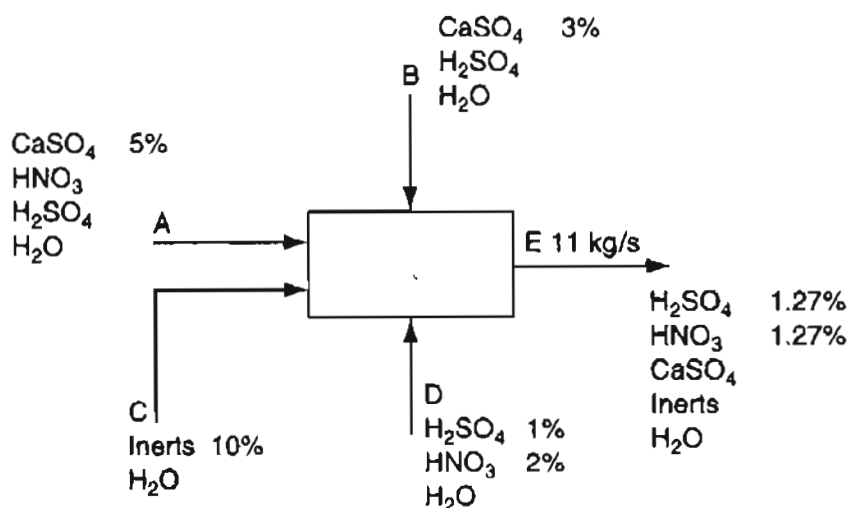

Figure P7.12
- **7.12** Effluent from a fertilizer plant is processed by the system shown in Figure P7.12. How many additional concentration and stream flow measurements must be made to completely specify the problem (so that a unique solution exists)? Does only one unique set of specifications exist?